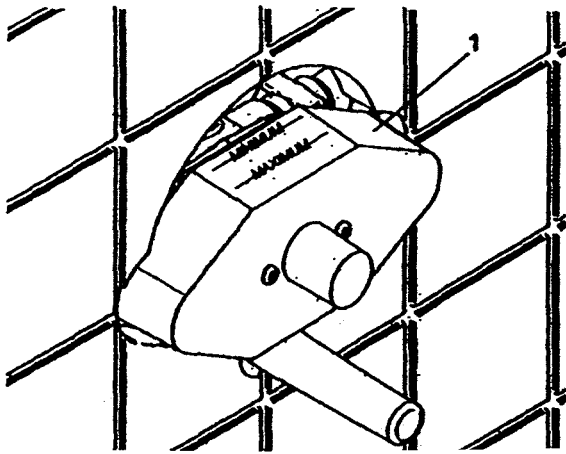

Fig. 4
Position valve with 1/2" shower outlet marked "S" up and the 1/2" tub outlet marked "T" down. Finished wall must be within dimensions shown on finished wall template (1) (see Fig. 4 & 5).
Finished wall template (1) must remain intact for finished wall surface measurements and as a template for plastering and/or tiling (see Fig.4).